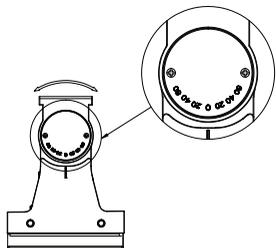
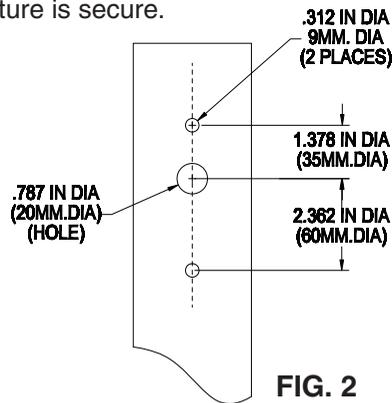
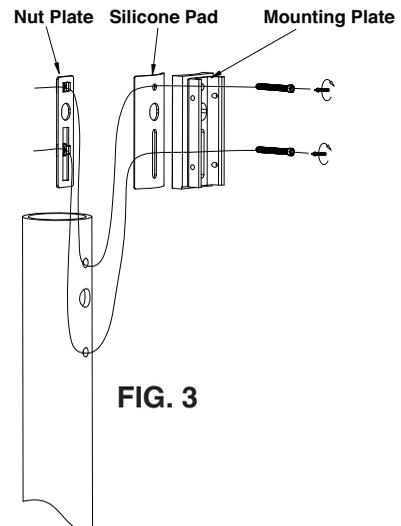

FIG. 1
FIG. 2
FIG. 3
This fixture can be mounted to a pole with an adapter mounting plate that is included. The flexible arm can be aimed 0 to 60° both upward and downward in 20° increments (see FIG. 1). The mounting plate has a slot pattern that will cover many existing hole patterns on poles, install in accordance with FIG. 3. If there is no existing hole pattern or the holes are outside of the slot range on the pole, drill holes according to the pattern in FIG. 2.
1. Tighten the nut plate and adapter on the pole. (See FIG. 3)
This fixture can be mounted to a pole with an adapter mounting plate that is included. The mounting plate has a slot pattern that will cover many existing hole patterns on poles, install in accordance with FIG. 3. If there is no existing hole pattern or the holes are outside of the slot range on the pole, drill holes according to the pattern in FIG. 2.
1. Tighten the nut plate and adapter on the pole. (see FIG. 3)